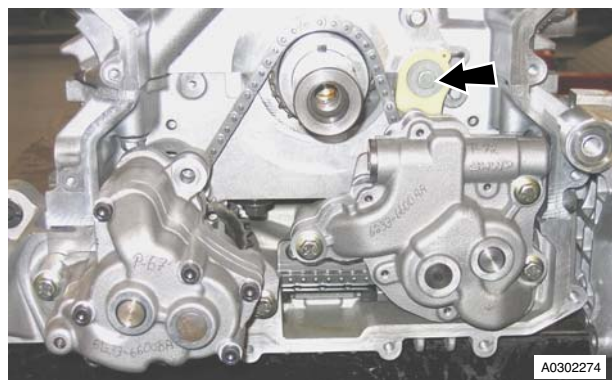

Figure 1
- Remove bolt securing oil pressure pump chain tensioner assembly to engine bedplate (see Figure 1).